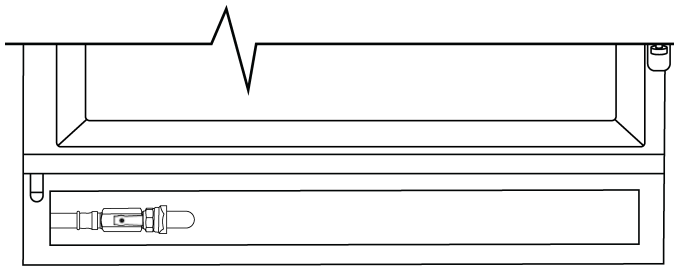

Fig 1. Location of Tap
- Lift up the flap at the front of the cabinet to access the tap to drain the cabinet. **(Fig 1)**